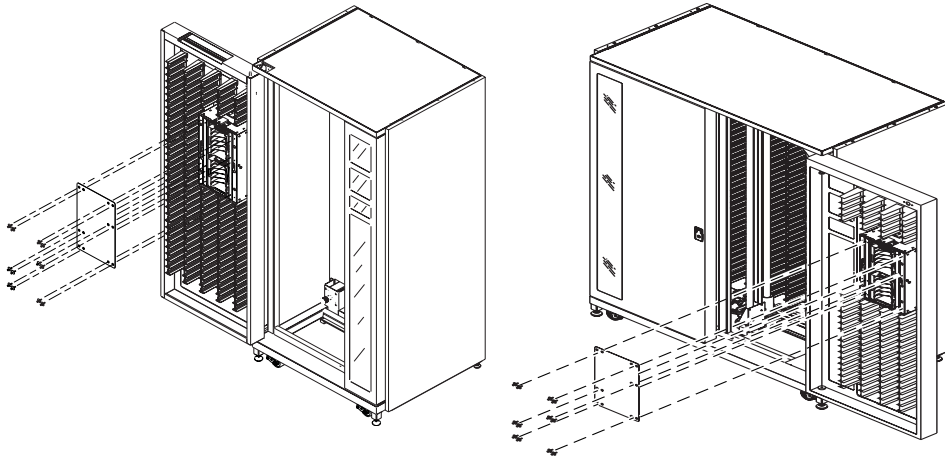

Figure C-1. Inserting the shipping plate
5. Attach the shipping plate that protects the load port (see Figure C-1). The load port is located in the right door of the library.